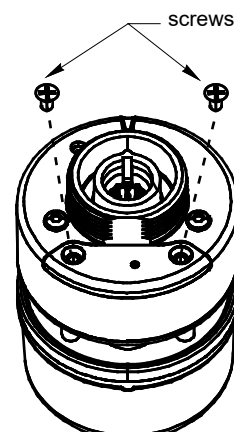

Figure 1: Removing the screws
2. On the WeatherStation Instrument, remove the two screws from the humidity sensor/blank* (Figure 1).